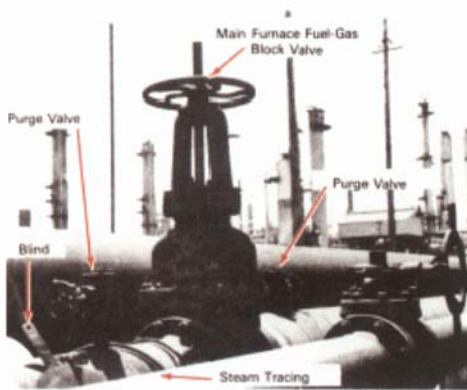

Figure 23b Blind removal from furnace fuel-gas line.
1. Remove the main furnace fuel-gas blind (Figure 23b).